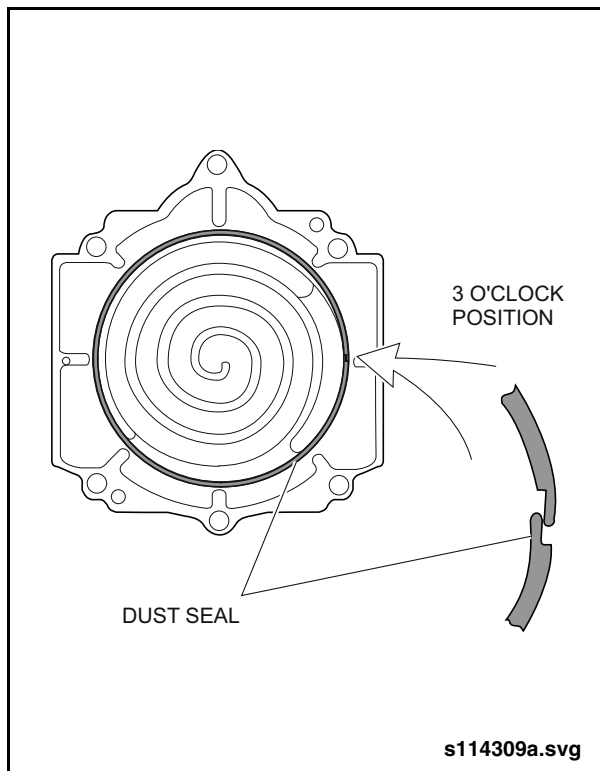

Fig. 9: Dust Seal Installation
9. Insert new dust seal on backup tube. Face seamed section of dust seal at the 3 o'clock position. See "Fig. 9: Dust Seal Installation" on page 7.